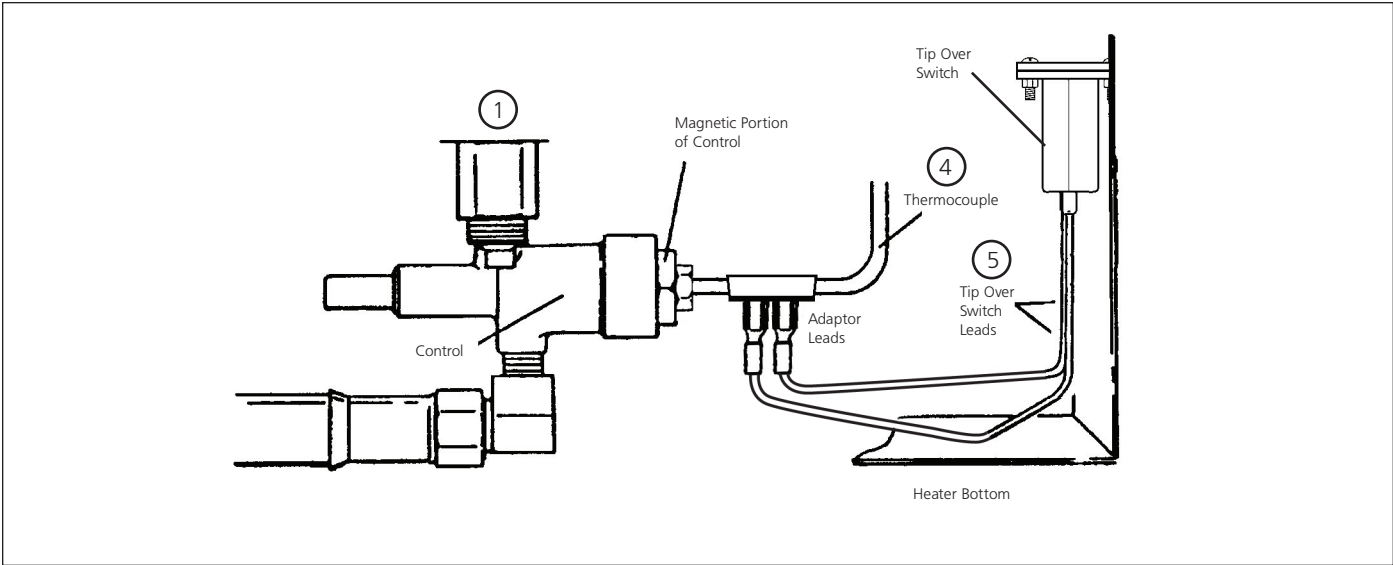

Figure 2
- Loose wires on tipover switch. (see Fig. 2)